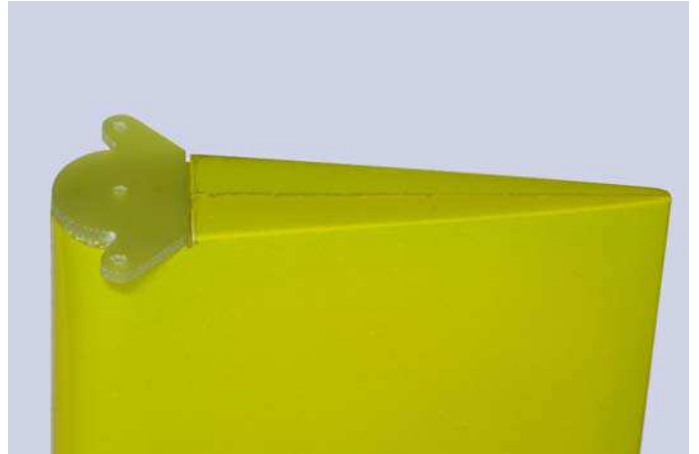

Fig.41: Glue the horn in this position.
- using some cyano, glue the horn “SQDR” to the rudder “VDER” (see figure 41).